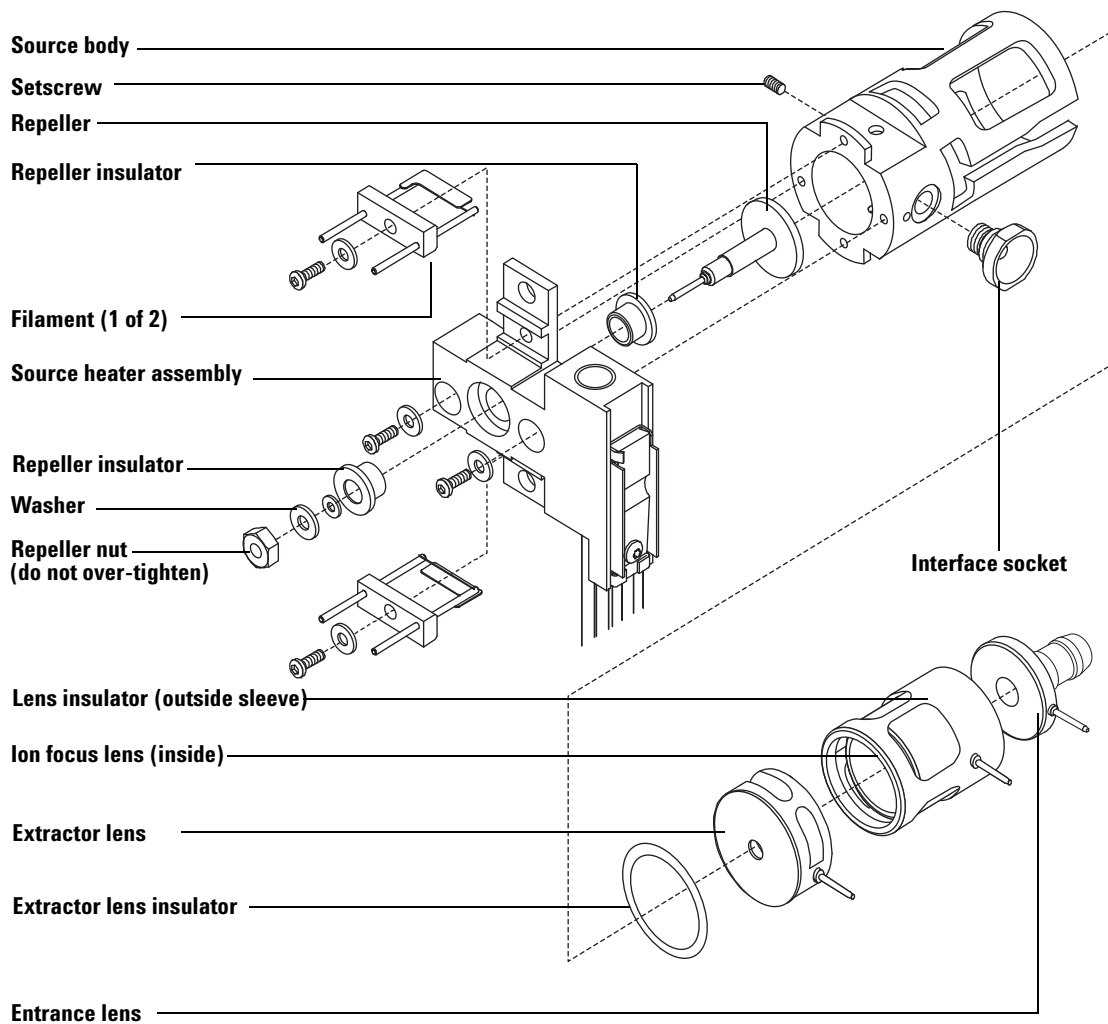

Figure 25 Assembling the EI extractor ion source
- 1 Assemble the ion focus lens, entrance lens, and lens insulator (Figure 25).
- 2 Attach the extractor lens insulator to the extractor lens, and slide them into the source body (Figure 25).